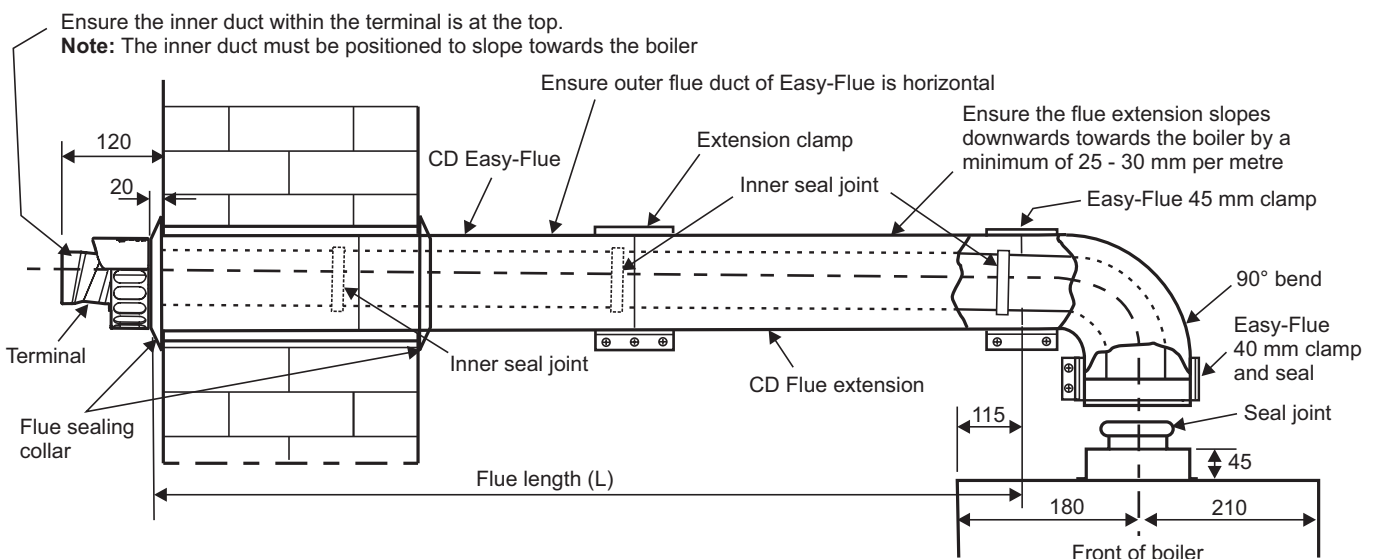

Fig. 5.11 - Side flue
## 5.8 EXTENDING THE FLUE - Fig. 5.11
**Note:** Check the flue terminal protrudes 120 mm out of the wall and that the inner duct of the terminal is positioned correctly, i.e. the inner duct within the terminal is at the top. See Fig. 5.11.